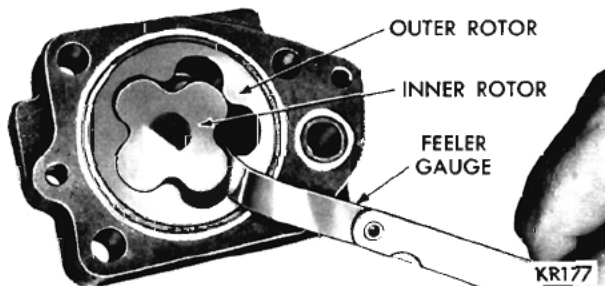

Fig. 127—Measuring Clearance Between Rotors
(5) Place the inner rotor in the outer rotor. Measure the clearance between the inner rotor and outer rotor. If measurement is more than .010 inch for 273 and 318 cubic inch engines or .010 inch (Fig. 127), for 361, 383 and 426 cubic inch engine, install new pump rotors.